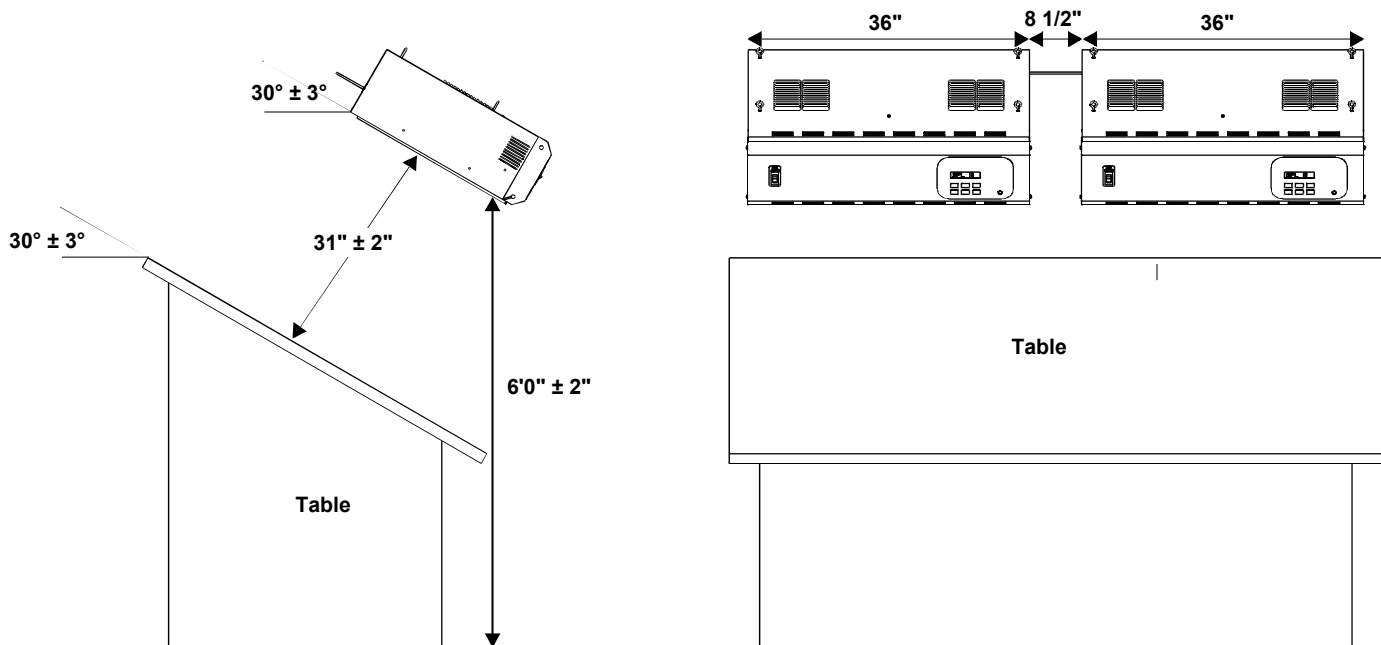

Figure 10. Recommended Overhead Luminaire Installation
3. Attach chains (not supplied) to each of the eyebolts and suspend the unit(s) at the appropriate height and angle over the work area. The luminaire should be installed so that it is a minimum of two feet from any wall. Refer to Figure 10.